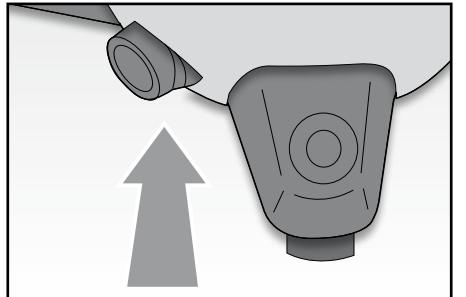

Fig. 2
- Insert the wheels (H) in the special housing in the bottom of the appliance and press them firmly until you hear them click into place (FIG. 2).